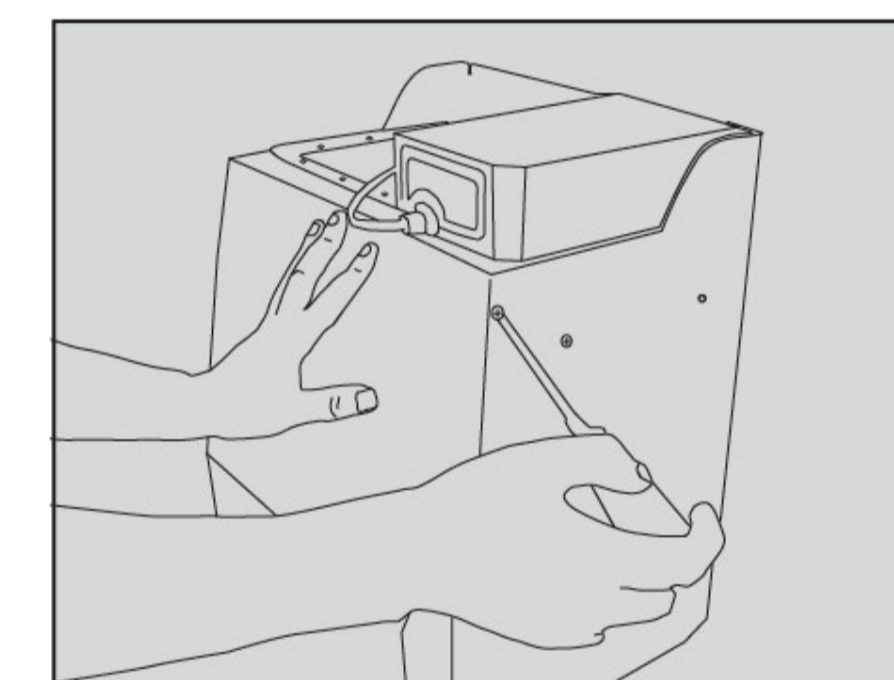

Fig.9
4. Unscrew and disassemble the fan cover; (Fig. 9)